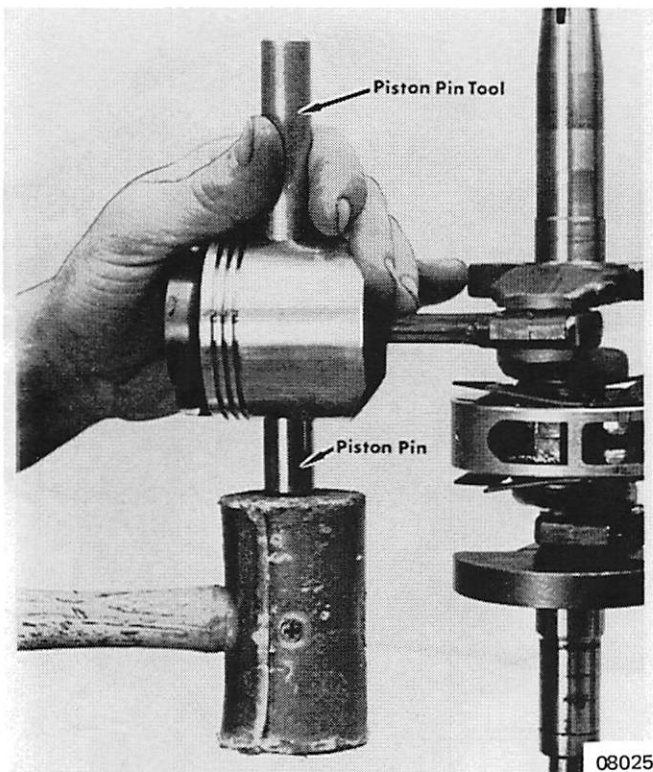

Figure 5. Installing Piston Pin
14. Install piston pin from bottom. (Figure 5)